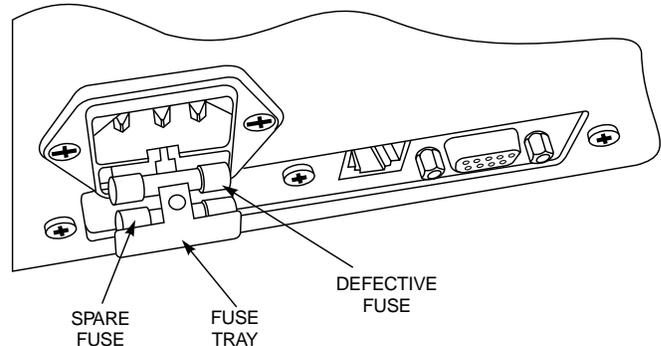

Figure 13. Fuse Replacement
2. Ensure that the power switch is in the Off (O) position, and remove the power cord from the back of the pump drive.
3. Refer to Figure 13, and use a small screwdriver to pull out the fuse tray.